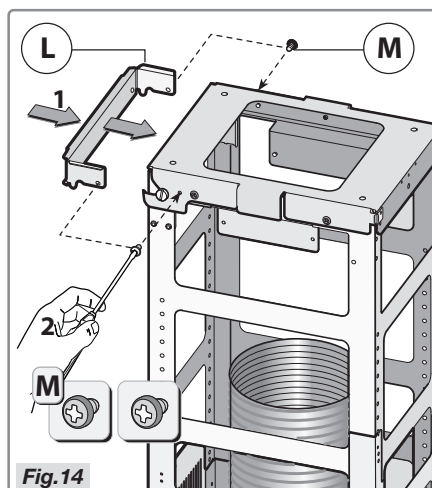

Fig. 14
- Take the safety bracket **L** and secure this to the ceiling plate with the two screws **M** as indicated in Figure 14 – steps 1-2.